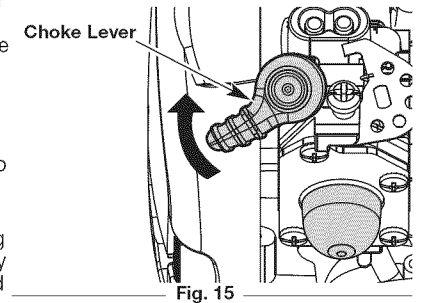

Fig. 15
4. Flip the choke lever clockwise until it clicks (Fig. 15).
- Flip the choke lever clockwise until it clicks (Fig. 15).